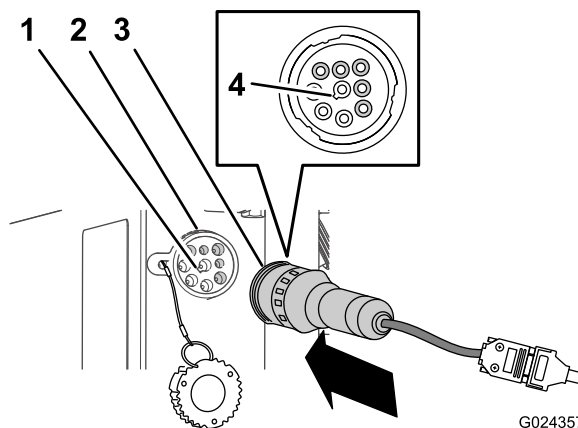

Figure 7
- A. Align the pin notch on the diagnostic-port to the pin notch on the adapter-harness plug (Figure 7).
B. Firmly insert the plug into the port (Figure 7).